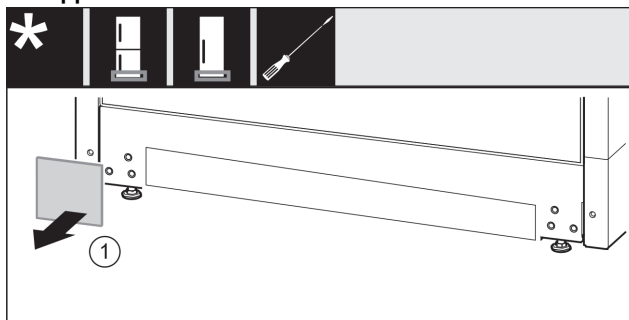

Fig. 12
- ▶ Take off the cover. Fig. 12 (1)